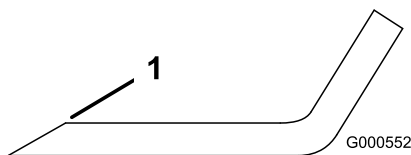

Figure 93
1. Use a file to sharpen the cutting edge at both ends of the blade (Figure 93).
**Note:** If the blade is not balanced, file some metal off the end of the sail area only (Figure 93).